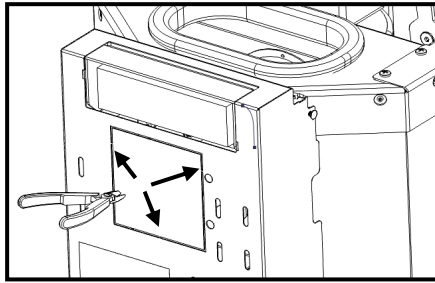

Figure 76 – Removing the back cover
- f) On the back of the equipment remove the cover marked in Figure 76 by cutting in the areas marked with a cutter.